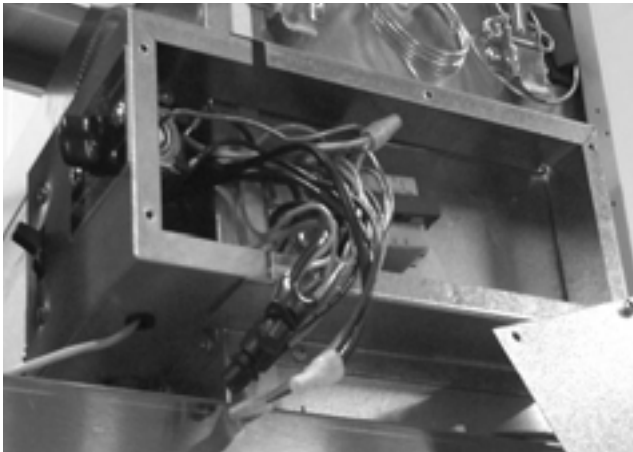

Figure 4-14
2. Remove the wiring box cover. Locate and disconnect the fan motor wires (Figure 4-14).